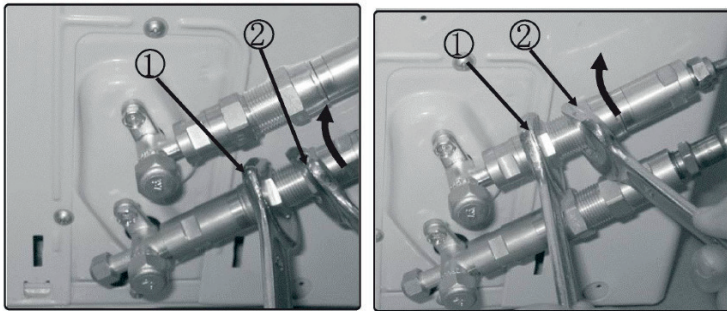

Fig. 6.4
4. Now tighten the bottom screw connector first and then the top screw connector using the open-ended spanner. Hold the points marked "1" using an open-ended spanner and turn the nuts only at the points marked "2" using an open-ended spanner (Select the appropriate spanner according to the dimensions of the connector), see Fig.6.4